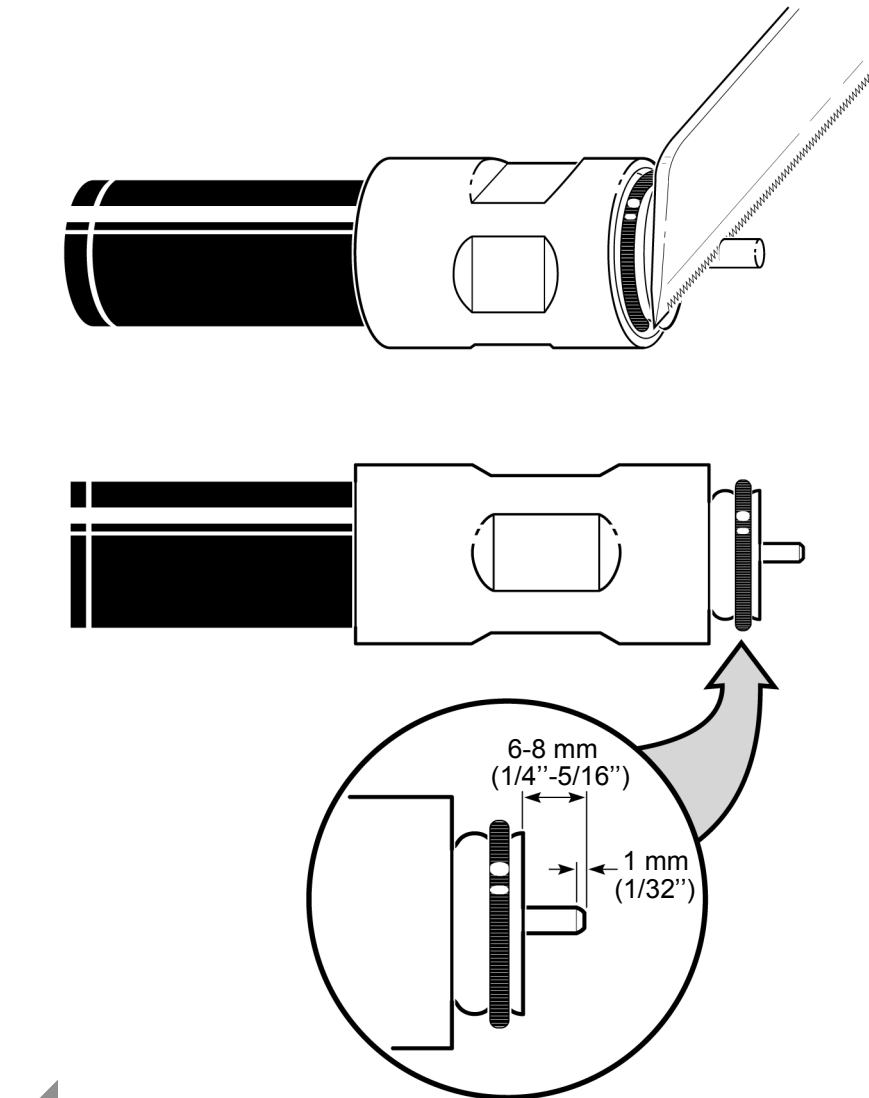

Figure 77 – Trimming the inner conductor
2. Use a fine-tooth saw to trim the inner conductor flush with the cutting guide, as shown in *Figure 77*.
3. File the outer conductor to the specifications shown in *Figure 77*.